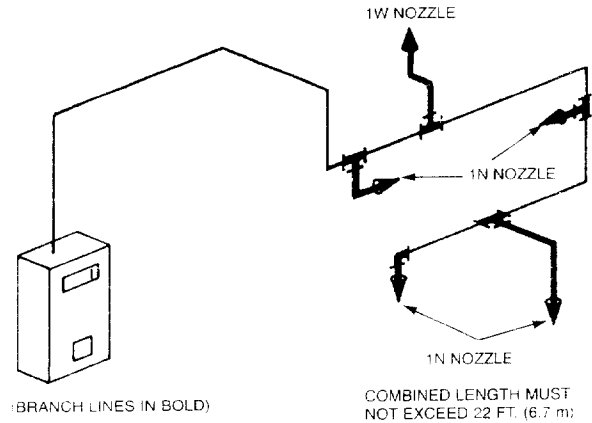

FIGURE 85
- 6. The combined length of all branch lines must not exceed 22 ft. (6.7 m). See Figure 85.